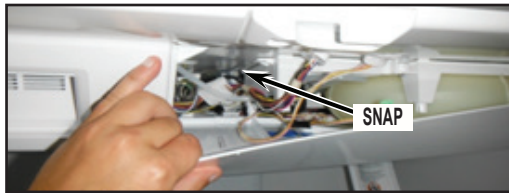

FIGURE 7
8. Working from left to right, slide your hand between the water reservoir cover and refrigerator compartment liner to disengage the snaps. See *Figure 7*.
9. Disengage rear left snap. See *Figure 7*.